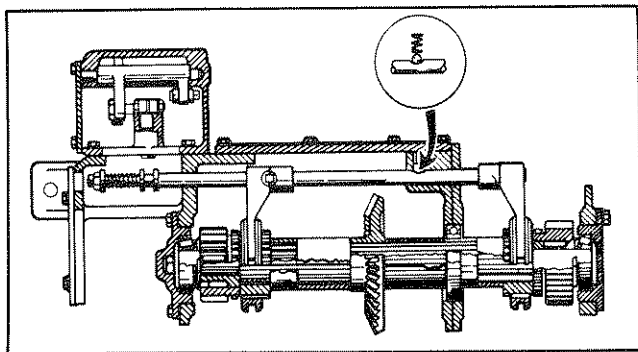

Figure 4-4. Direct Drive Shifter Assembly.
a. Place the shifter assembly in neutral. (See figure 4-4.) The shifter linkage will positively detent to this position.